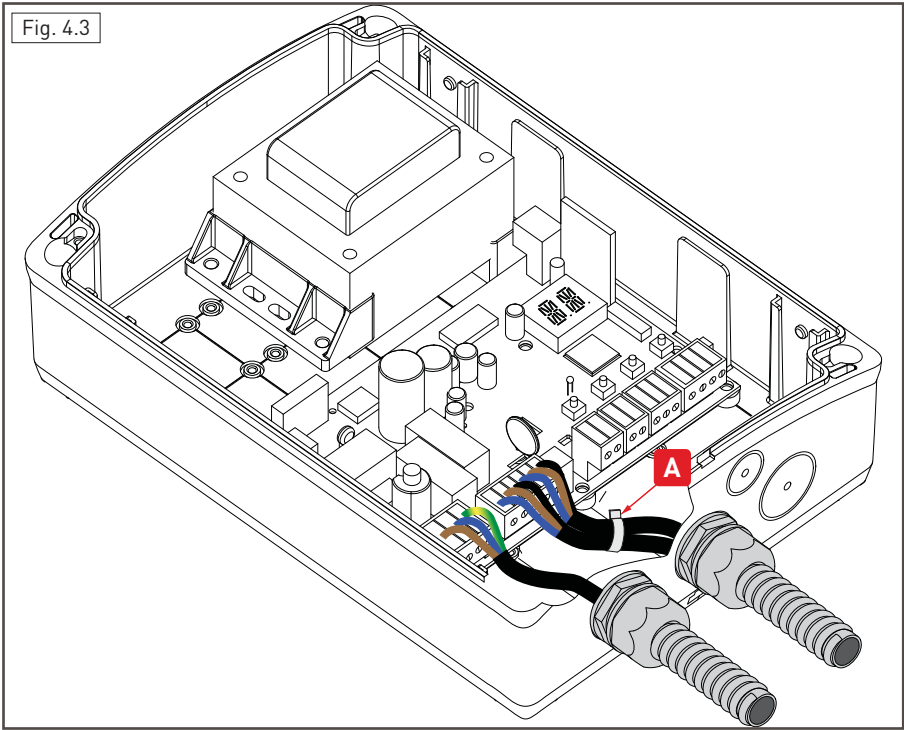

Fig. 4.4
- If necessary, fit the clip hinges on the bottom of the box and on the cover (left or right side, as preferred) (Fig. 4.4, page 8).